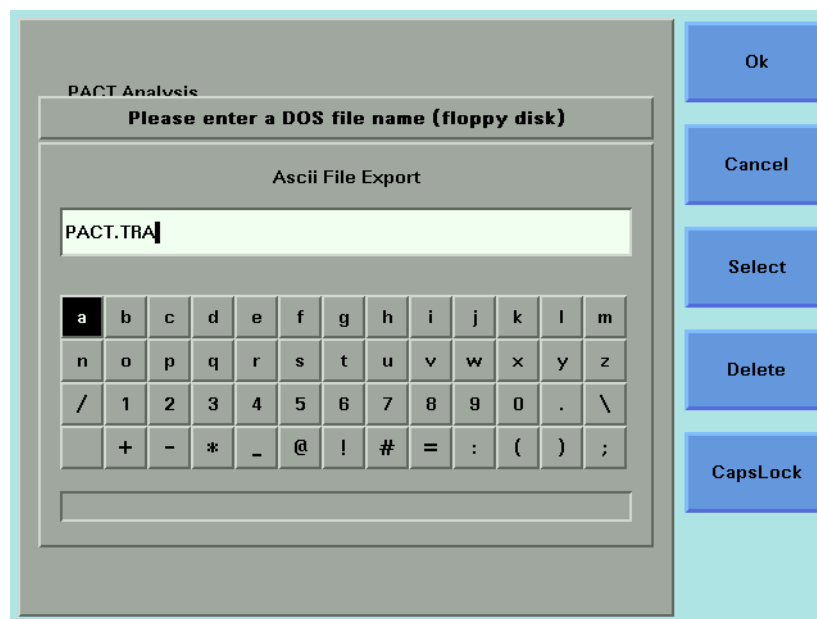

Figure 175 The File Name Editor
- 6 Press *Enter*. The File Name Editor, as shown in Figure 175, appears.